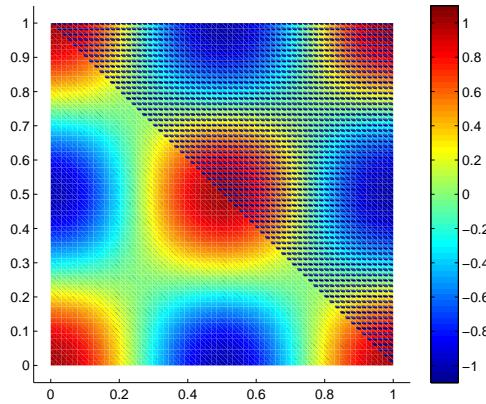

Figure 3.2: Solution plot for subproblem (3.1n).
**Solution:** See Fig.3.2 for the plot.